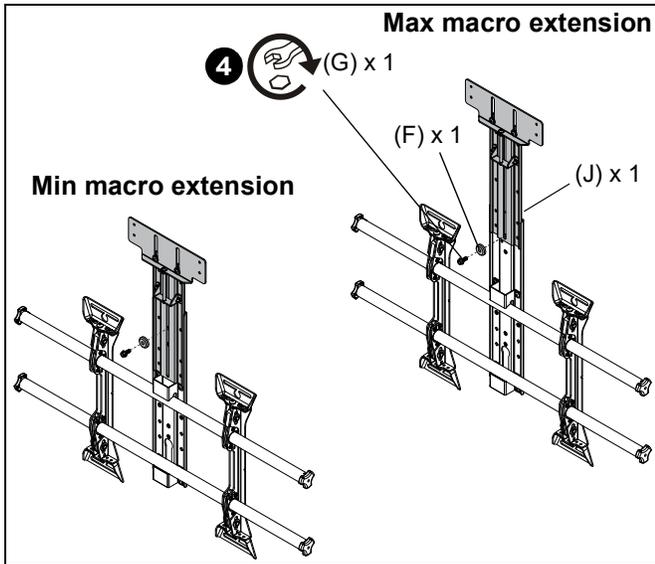

Figure 13
4. Use 1/4-20 x 5/8" hex head flange screw (G) and center washer (F) to secure lower adjustment assembly (J) to upright assembly (A).
- **(Maximum macro extension)** Slide lower adjustment assembly until bottom of channel rests against 1/4-20 x 5/8" screw. (See Figure 13)
- **(Minimum macro extension)** Slide lower adjustment assembly until bottom of bracket rests against top of rail bracket. (See Figure 13)